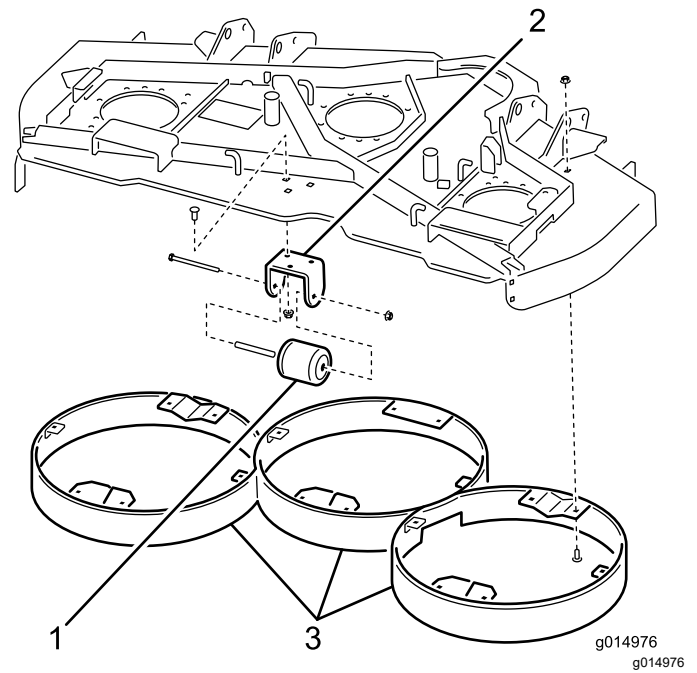

Figure 1
3. Remove the nut, bolt, and spacer securing the deck roller to the mounting bracket, and remove the deck roller (Figure 1).
4. Remove the carriage bolts and nuts securing the roller-mounting bracket to the underside of the mower deck, and remove the roller-mounting bracket (Figure 1).
5. Remove the carriage bolts and nuts securing the center, left, and right baffles to the underside of the mower deck, and remove the baffles (Figure 1).